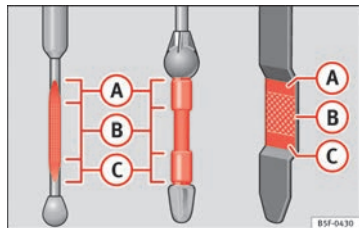

Fig. 161 Engine oil dipstick.
- Then pull it out once more and check the oil level ⇒ Fig. 161. Top up with engine oil if necessary.